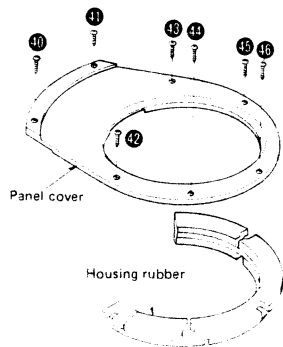

Fig. 11
2. Remove the 7 setscrews (Fig. 11 : 40 ~ 46) of the panel cover.